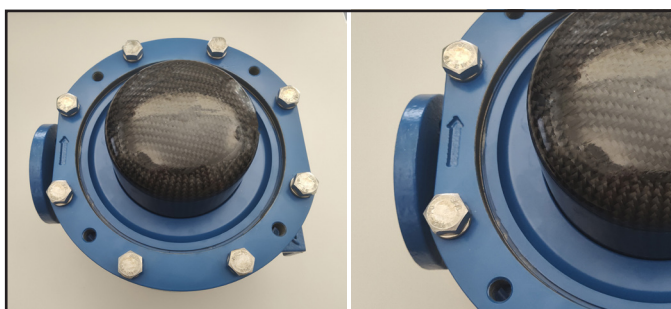
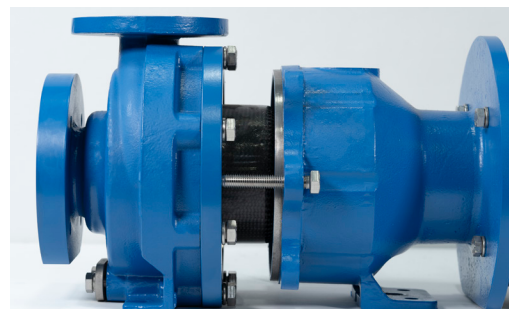

figure 43
figure 44
6. Place the rounded edge of the clamp ring (Item 10) over the barrier assembly and position on the rear face of the casing. The flat and rotation arrow should be at the discharge side of the housing. Attach the clamp ring with (8) M14 hex headcap screws and washers (item 18 & 19). Tighten evenly around circumference. Torque the screws to 75 ft-lbs (102 N-m) unlubricated. See figure 43.
7. Using a 22mm socket, turn the (2) jackscrews (item 29) clockwise until the heads touch the motor adapter (item 12).
8. Install vapor protection o-ring (item 9) into groove of clamp ring.
9. Carefully slide the wet end towards the motor adapter until it touches the jackscrews (there will be some magnetic attraction). See figure 44.
11. Bolt the wet end to the motor adapter by re-installing the (4) M14 hex head cap screws and washers (item 18 & 19) and torque evenly to 75 ft-lbs (102 N-m).